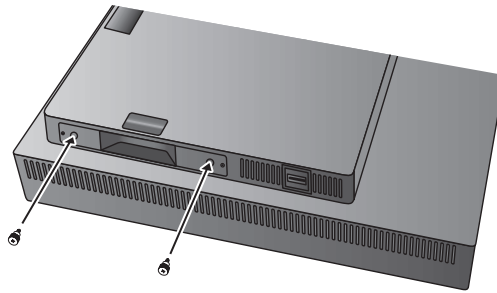

Figure G.1
2. Connect the included thumbscrews to the holes on DisplayPort's interface unit (**Figure G.1**).